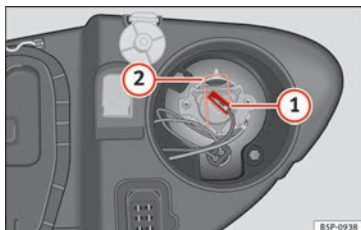

Fig. 181 Main beam headlight.
- Remove connector »» **Fig. 181 ①** from the bulb.
- Press the spring »» **Fig. 181 ②** inwards and to the right.